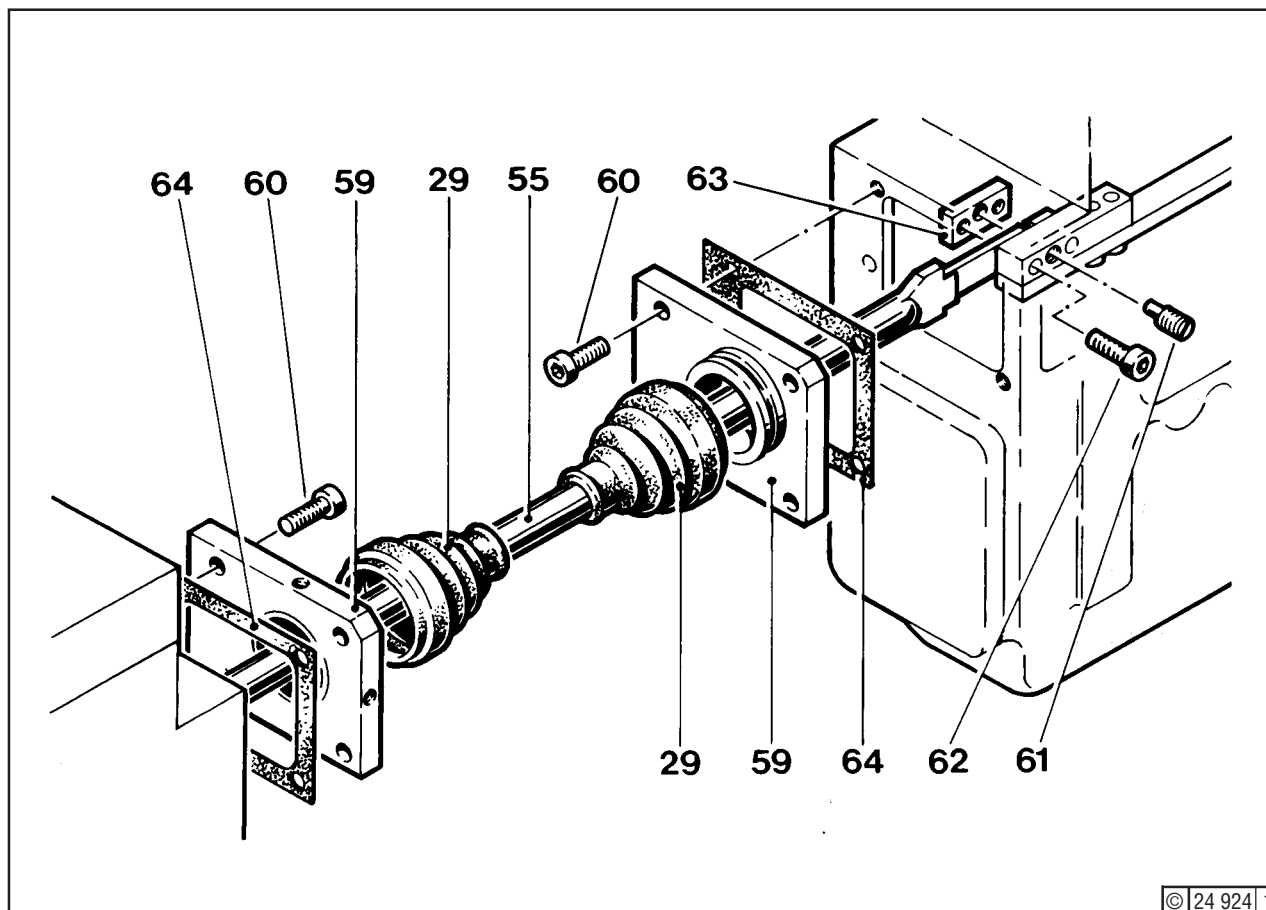

Fig. 2
Unscrew cheese-head screws (60) - Fig. 2 -. Remove gaskets (64). Push covers (59) and bellows (29) towards the middle of links (55). Then undo cheese-head screws (62) and scrap. Remove flat irons (63). Slacken eccentrics (61) and carefully lift links out of the injection pumps.